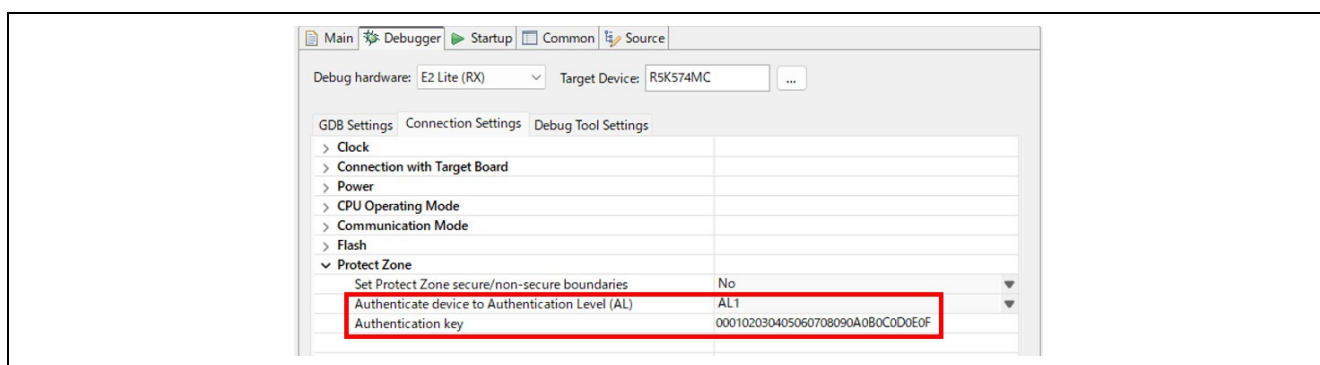

Figure 4-12 Authenticated Transition to AL1 During Debugging
Figure 4-12 shows an example of setting a debug configuration by using AL1_KEY which is used as an example in this application note. Specify AL1 for **Authenticate device to Authentication Level (AL)** and the AL1 plaintext key for **Authentication Key** under **Protect Zone** on the **Debugger -> Connection Settings** tab.